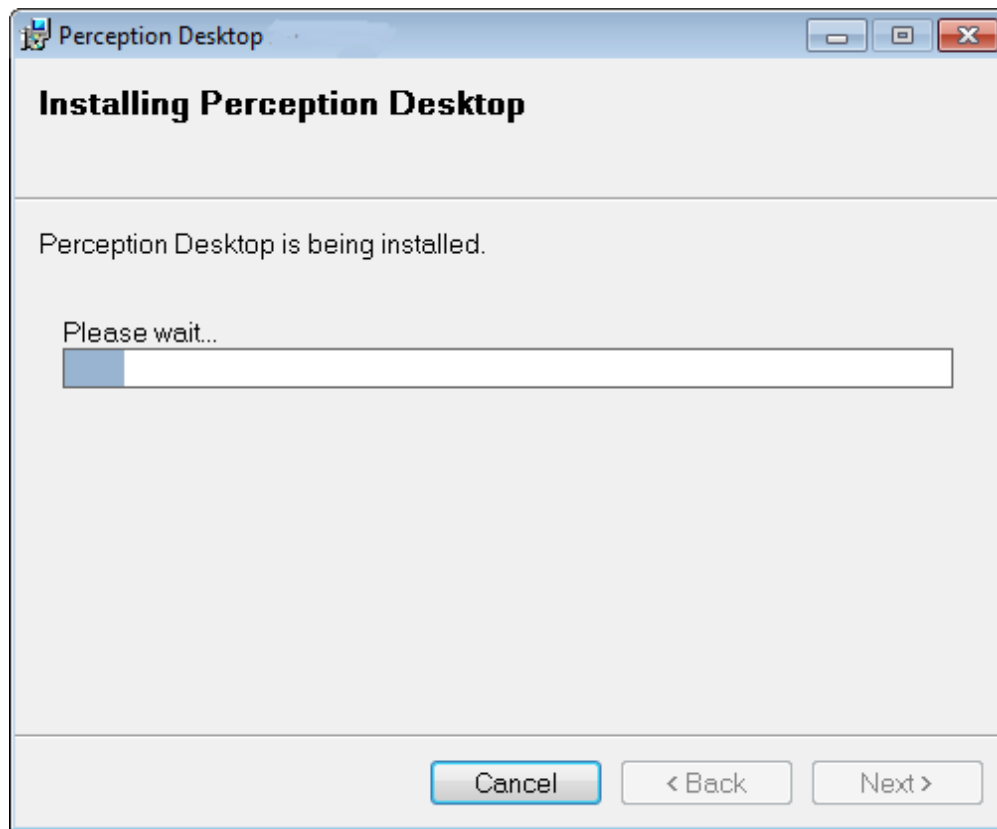

Figure 2-5: Installing Perception Desktop
- 2.2.5 If you click **Next**, then the installation commences and a progress bar indicates the progress so far as shown in Figure 2-5. The installation may take some minutes.